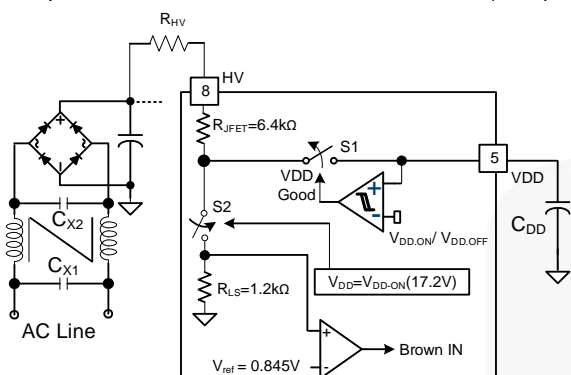
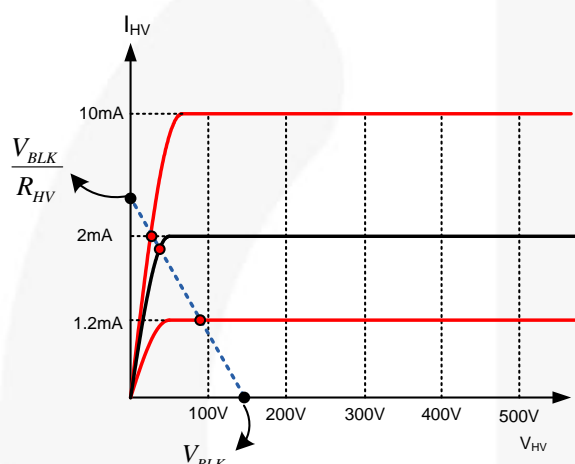

Figure 43. HV Startup Circuit
Figure 44. Characteristics of HV pin
Figure 43 shows the high-voltage (HV) startup circuit. An internal JFET provides a high voltage current source, whose characteristics are shown in Figure 44. To improve reliability and surge immunity, it is typical to use a R_{HV} resistor between the HV pin and the bulk capacitor voltage. The actual current flowing into the HV pin at a given bulk capacitor voltage and startup resistor value is determined by the intersection point of characteristics I-V line and the load line as shown in Figure 44.
During startup, the internal startup circuit is enabled and the bulk capacitor voltage supplies the current, I_{HV} , to charge the hold-up capacitor, C_{VDD} , through R_{HV} . When the V_{DD} voltage reaches V_{DD-ON} , the sampling circuit shown in Figure 43 is turned on for t_{HV-det} (100 μ s) to sample the bulk capacitor voltage. Voltage across R_{LS} is compared with reference which generates a signal to start switching. If brown-in condition is not detected within this time, switching does not start. Equation (9) can be used to program the brown-In of the system. If line voltage is lower than the programmed brown-In voltage, FAN602L goes in auto-restart mode.